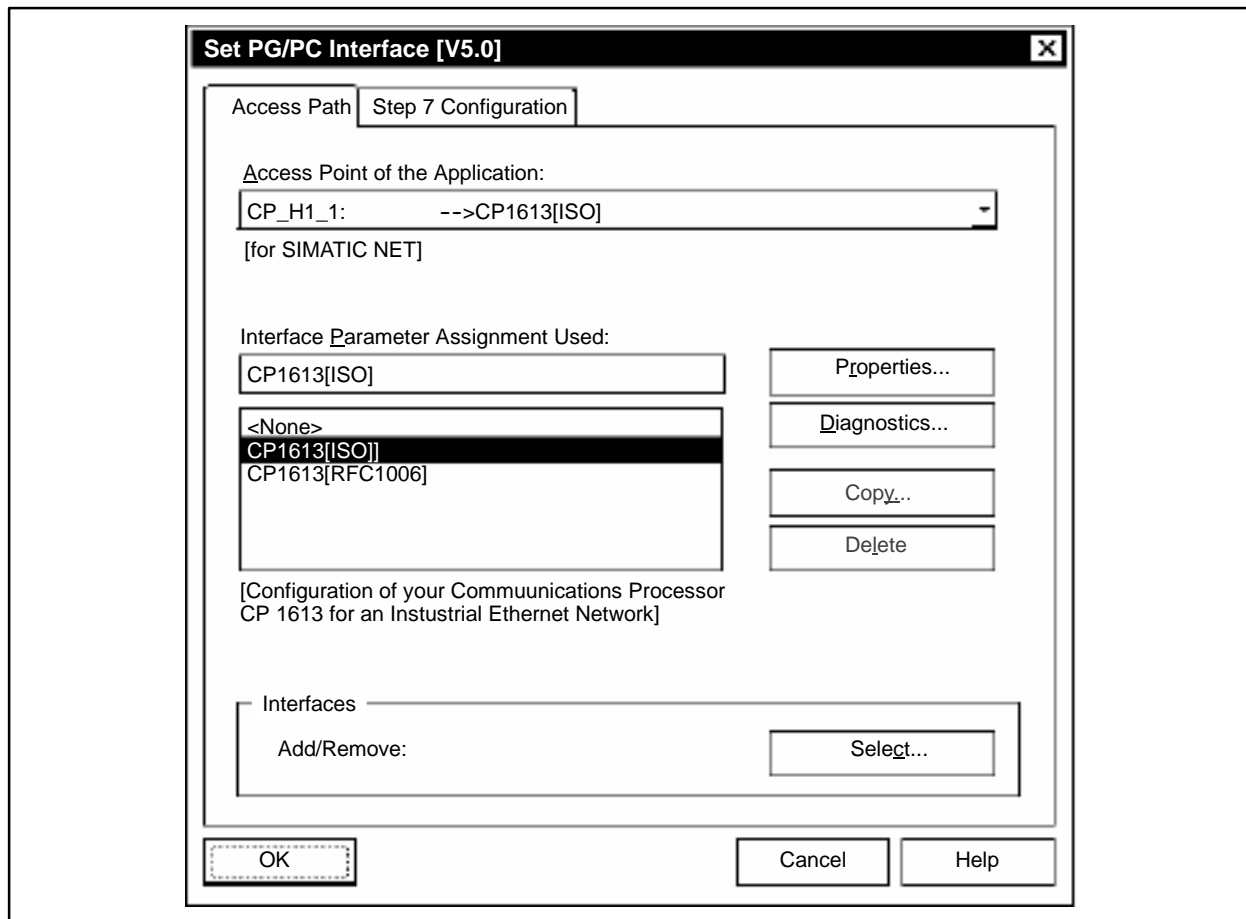

Figure B-10 Defining the Point of Access for the CP1613 Card
2. In the Interface Parameter Assignment Used field, select **CP1613(ISO)**. The entry **CP_H1_1: -> CP1613(ISO)** should now appear in the Access Point of the Application field (Figure B-10).